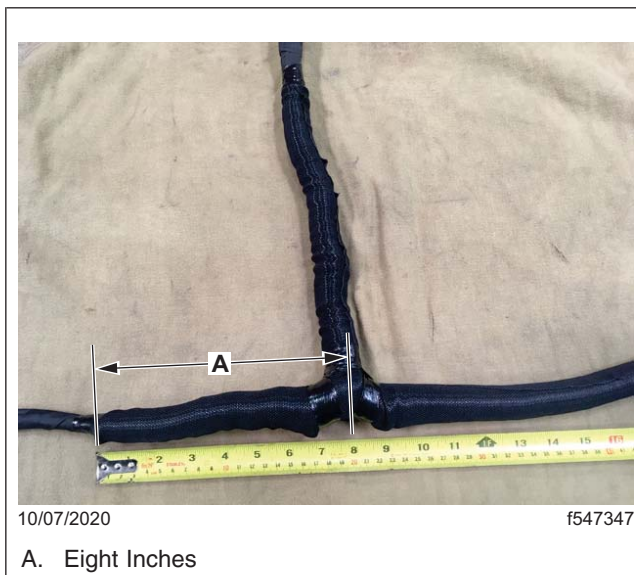
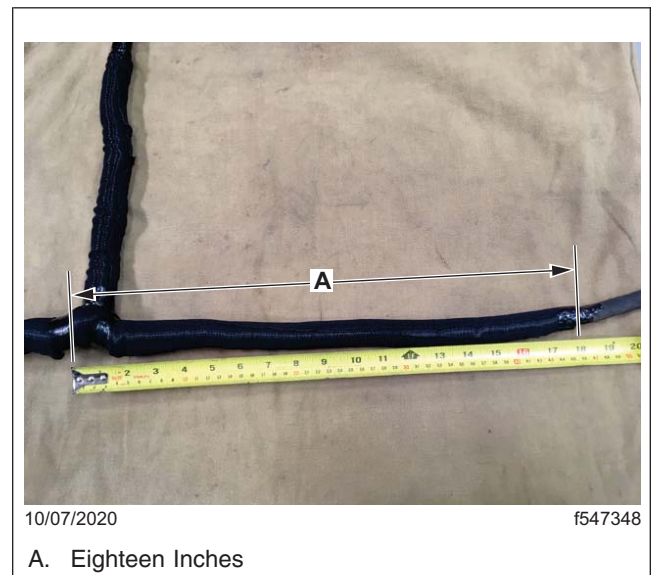

Fig. 9, Eight Inch Horizontal Section of TwistTube
Fig. 10, 18-inch Horizontal Section of TwistTube
- 13. Add TwistTube to the engine harness at the air compressor bracket area. Use the measurements provided in Fig. 9, Fig. 10, Fig. 11, and Fig. 12.
Add TwistTube over the first 8 inches (203 mm) of the horizontal section ahead of the vertical section (see Fig. 9) and over the first 18 inches (457 mm) behind the vertical section (see Fig. 10). There will be a total of 26 inches (660 mm) of added TwistTube. See Fig. 11.